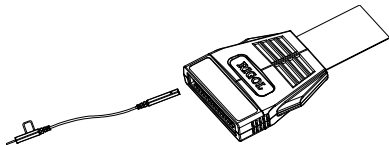

Figure 1
- ◆ Method one: users can connect the signals under test through the probe leads separately. You can easily identify the corresponding channel of each signal by the channel label on the probe leads and the label of the probe input, as shown in Figure 1.